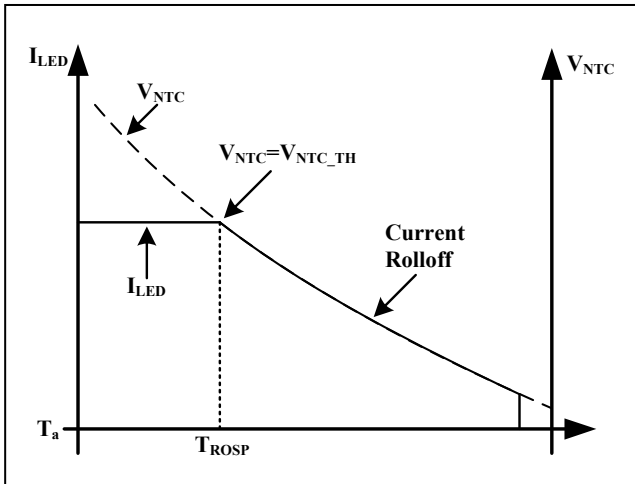

Figure 33 LED Thermal Rolloff Protection
Due to the negative temperature coefficient characteristic of the NTC thermistor, the V_{NTC} gradually reduces following the temperature ramping up. The output current is constant until $V_{NTC} = V_{NTC_TH}$. As shown in Figure 33, assume that the desired temperature point of current rolloff start is T_{ROSP} . With a given NTC thermistor, the NTC resistance (R_{NTC_ROSP}) at T_{ROSP} temperature point can be found in its datasheet. Put into Equation (8) to decide R_{TRO} value: